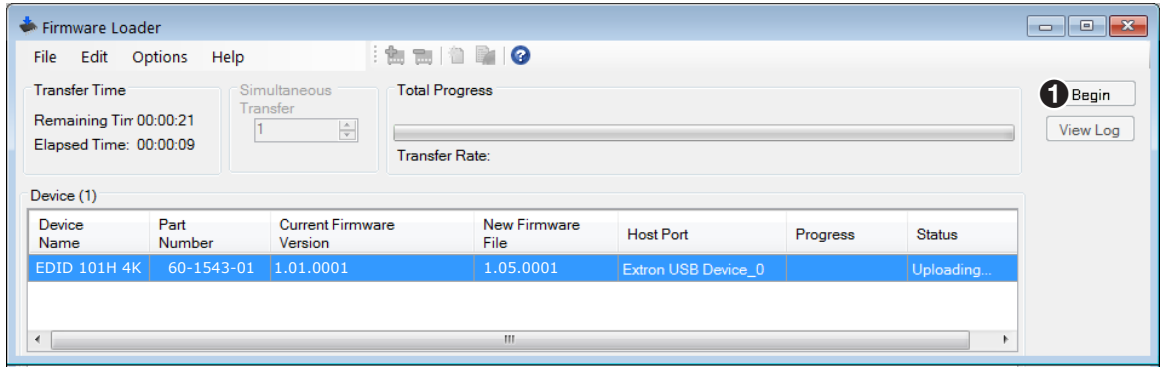

Figure 23. Firmware Loader Main Screen
The main screen opens with the EDID 101H 4K high-lighted (see figure 23).
8. Click **Begin** to start the upgrade (see figure 23, 1).